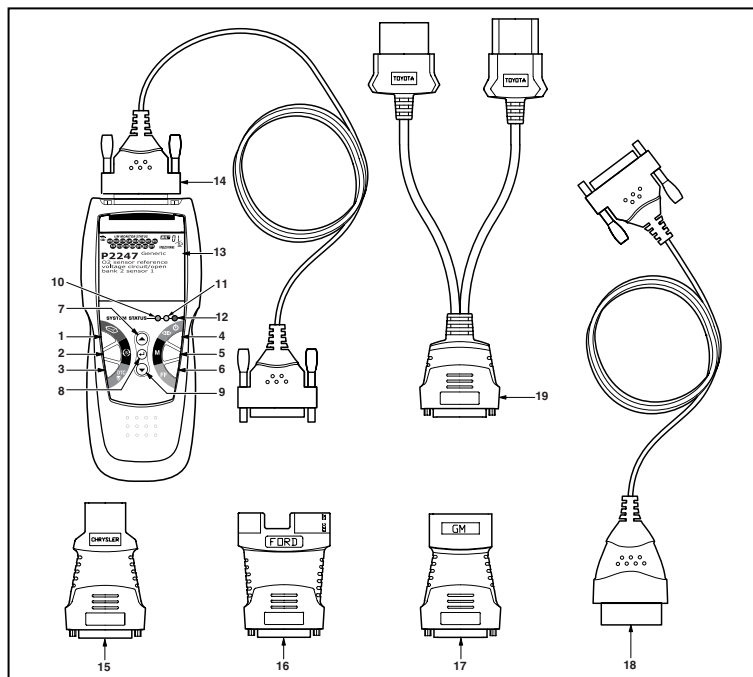

Figure 1. Controls and Indicators
See Figure 1 for the locations of items 1 through 19, below.